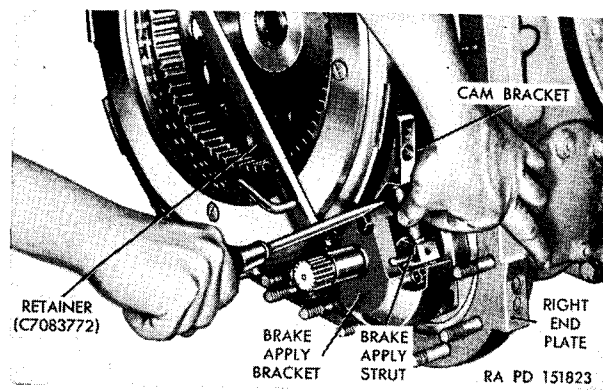

Figure 84. Removing or installing brake apply strut.
- (5) Using a screwdriver, rotate the brake-apply-cam rotating ring until the brake-apply strut can be removed (fig. 84).